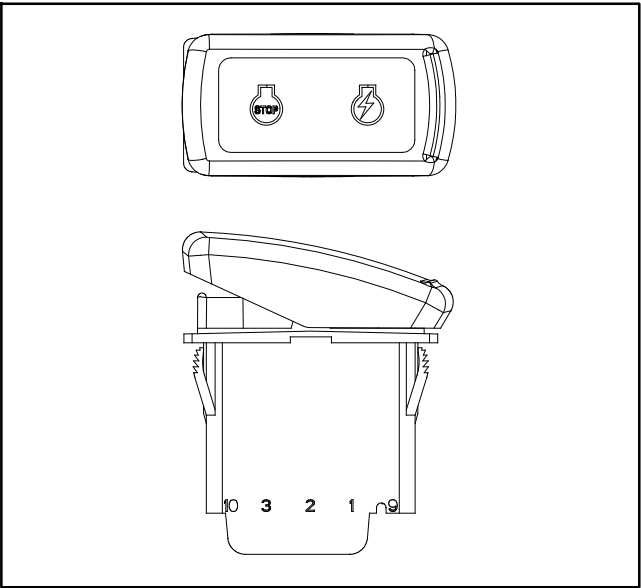

Figure 15
3. With the use of a multimeter (ohms setting), the switch functions may be tested to determine whether continuity exists between the various terminals for each switch position. The switch terminals are marked on the side of the switch as shown in Figure 15. The circuitry of the ON/OFF switch is shown in the chart below. Verify continuity between switch terminals.